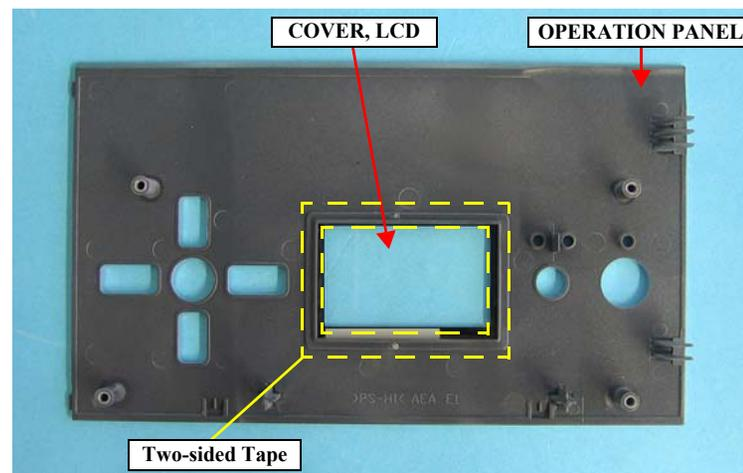

Figure 4-24. Removing the COVER, LCD
6. Remove the COVER, LCD secured to the OPERATION PANEL with the two-sided tape. *See Figure 4-24.*